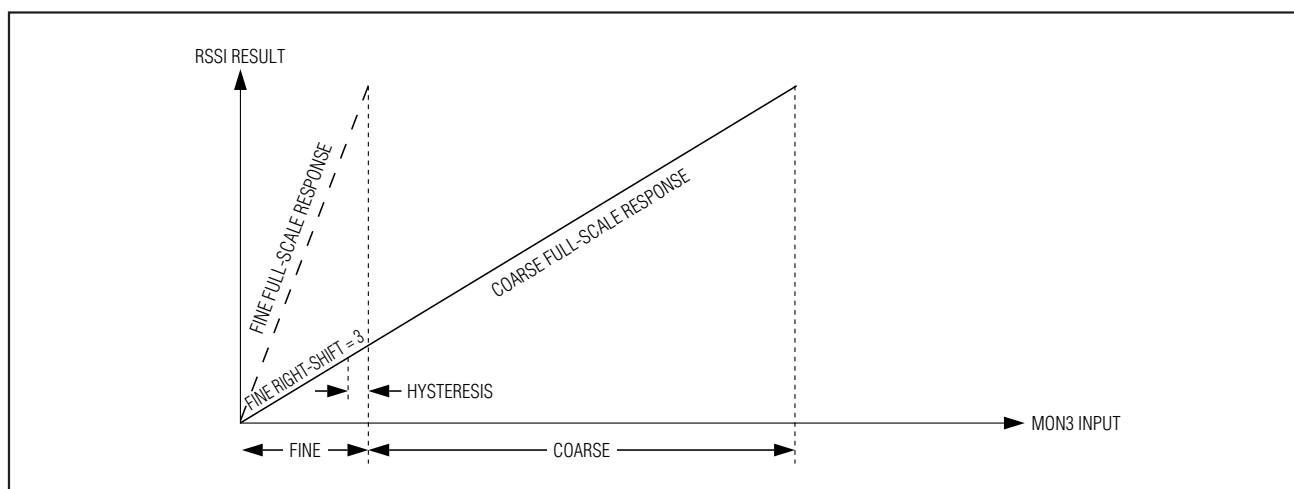

Figure 9. RSSI with Crossover Disabled
- **Crossover Disabled:** The crossover disabled mode is intended for systems with a linear relationship between the MON3 input and desired ADC result. The ADC result transitions between the fine and coarse ranges with hysteresis (Figure 9). In crossover disabled mode, the thresholds between coarse and fine mode are a function of the number of right-shifts being used. With the use of right-shifting, the fine-mode full scale is programmed to $(1/2^{nth})$ of the coarse-mode full scale. The device now auto ranges to choose the range that gives the best resolution for the measurement. Table 4 shows the threshold values for each possible number of right-shifts.